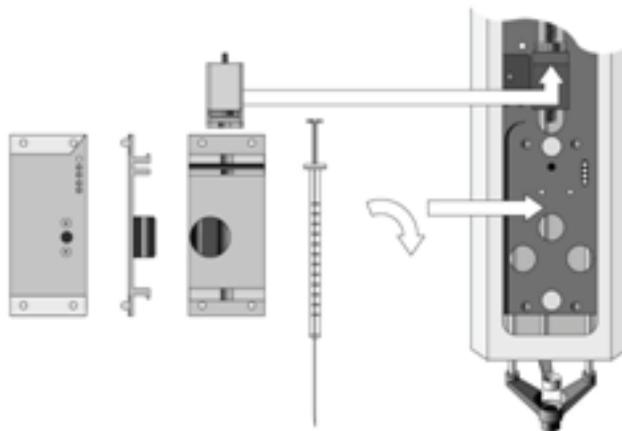

Figure 29 Syringe and Syringe Adapter for Liquid Injections
- 3 Place the syringe in the appropriate syringe adapter. Pull the plunger out to approximately 20 % of it's length (see Figure 29 on page 72).